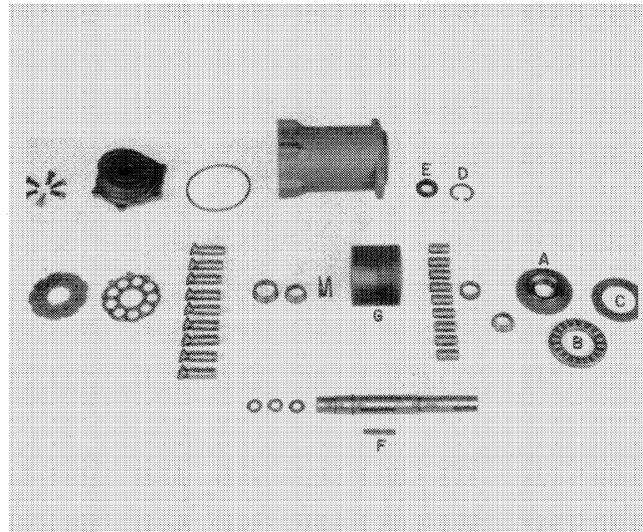

FIGURE 1-29
12. Remove piston race assembly, A; thrust bearing, B; and thrust washer, C, Figure 1-29. Remove retaining ring, D, and seal, E, from the housing.
1. Install snap ring, C, Figure 1-28, on the shaft if it was removed and install key, F, Figure 1-29.
2. Slide piston block, G, Figure 1-29, on the shaft with the bore chamfer toward the snap ring.
5. Position the housing with the open end up. Lubricate thrust washer, C, Figure 1-29, and install in the housing.
6. Slide piston race assembly, A, and thrust bearing, B, Figure 1-29, on the shaft.
12. Remove the assembly from the vise and install new shaft seal, E, Figure 1-29. Install retaining ring, D.